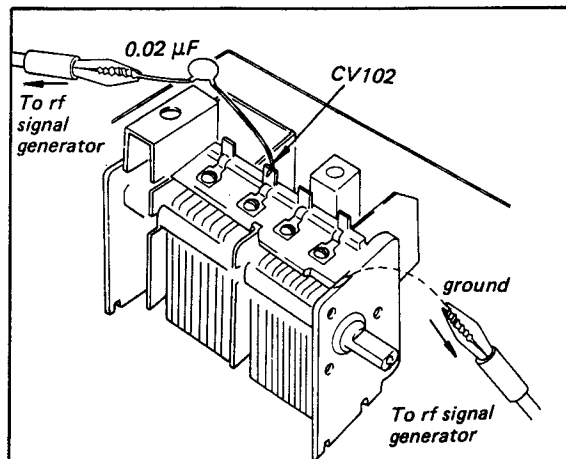

Fig. 3-4. 10.7-MHz signal injection
2. Connect the output cable of the generator across CV102 on the fm (a-m) front-end/i-f amp/MPX and preamplifier board through a 0.02 μF coupling capacitor as shown in Fig. 3-4.